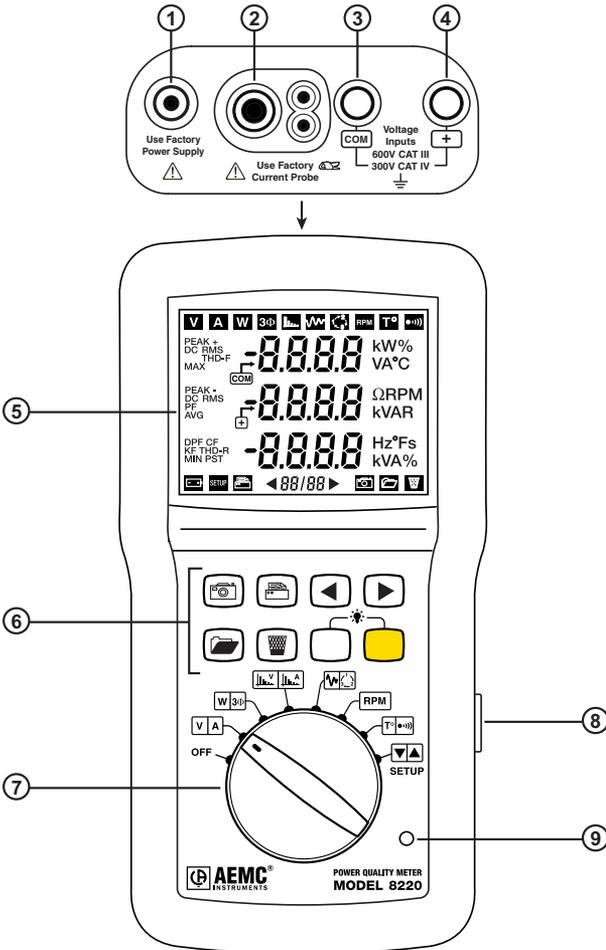

Figure 2-1
The optically coupled interface (Figure 2-1, item 8) provides an isolated, two-way connection between the Model 8220 and a PC for transmission of the information in memory (photographs, motor starts, records) and all instantaneous measurements and photographs displayed on the screen of the Model 8220.